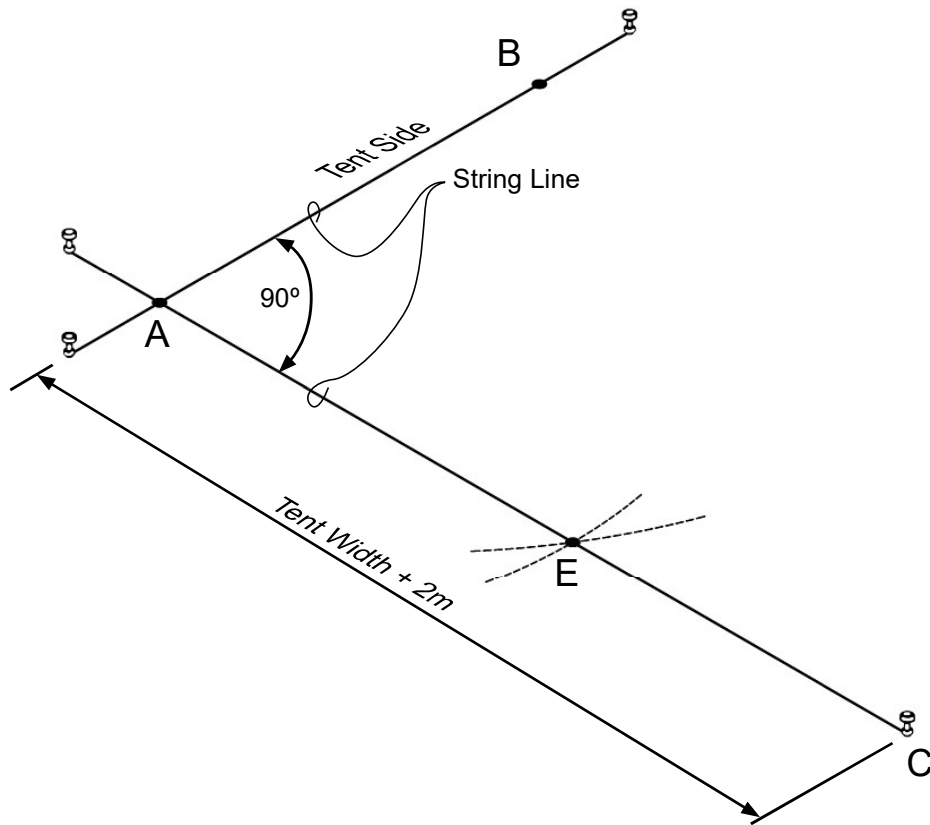

Figure 1.1c
- 1.1.5 Stretch another string line along the tent's front from point A toward point E. This string line will be 90 degrees to string line A-B. Without changing the angle, extend this string line 2m past width of tent to establish point C. Check to make sure the string line from A to C still passes thru the intersection of the two arcs at point E. This line establishes the front of the tent. See **Figure 1.1c**.